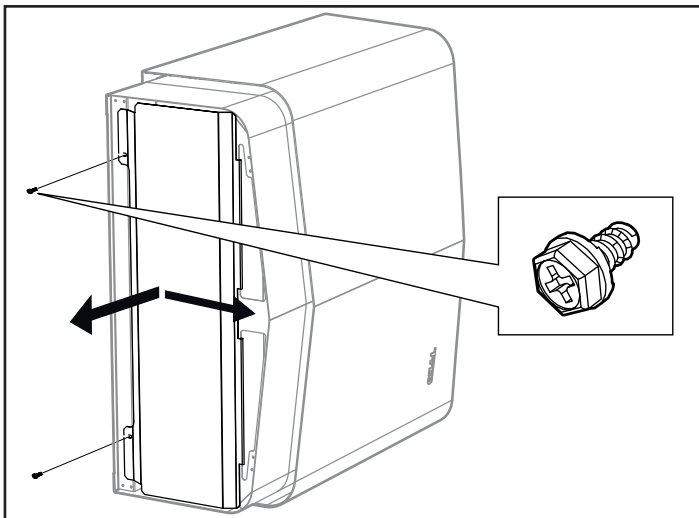

Figure 15: Opening/closing the cover
1. Undo the screws and open the cover (see Figure 15).
4. Close the cover and tighten the screws (see Figure 15).